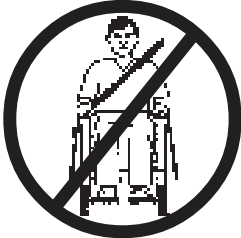

FIGURE 4 Positioning Belts
- 3. The belt(s) should not be held away from the body by wheelchair components or parts, including but not limited to wheelchair armrests or wheels. Refer to FIGURE 4 for proper and improper positioning of the belts.